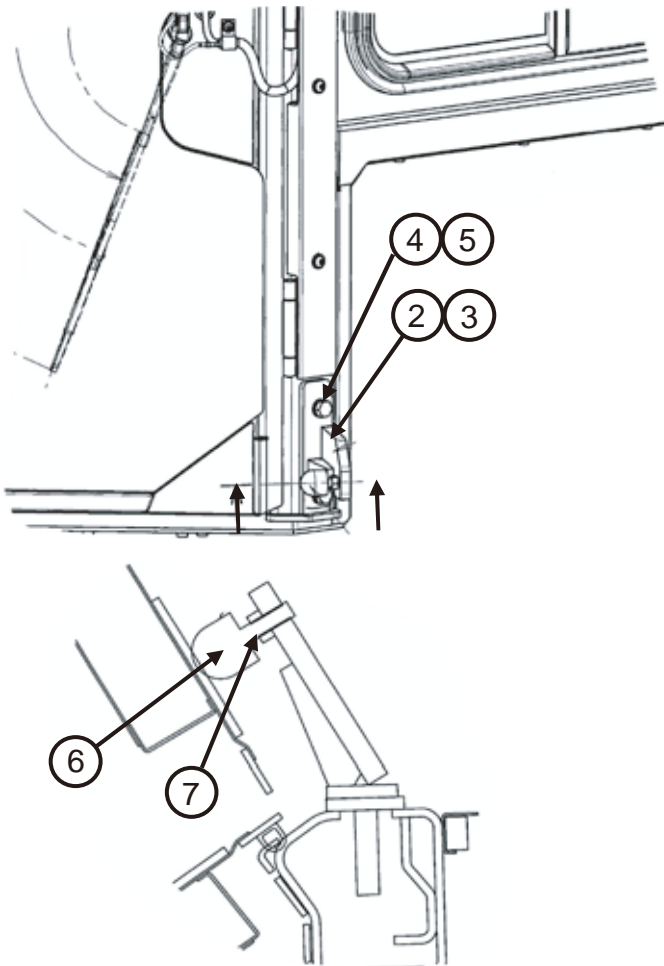

Fig. 3 Installation of open lock stopper
- Install the right and left open lock stopper brackets with bolts (4) and washers (5) as shown in Fig. 3. (2 pieces on each side)
- Fix wiring harness bracket (A) with bolt (B).
- Fix stopper rubber (6) with nut (7).